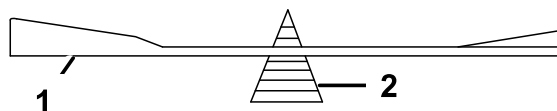

Figure 117
2. Check the balance of the blade by putting it on a blade balancer (Figure 117).